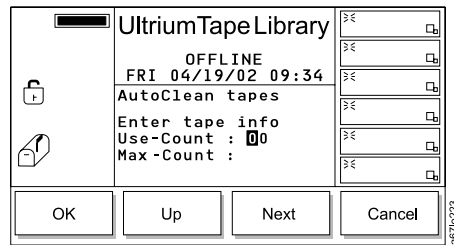

Figure 173. Set Use and Max Count Dialog
7. After the TEACH and INVENTORY (Scanning) procedures are complete, press the button below the **OK** softkey. The Set Use and Max Count Dialog displays (see Figure 173).